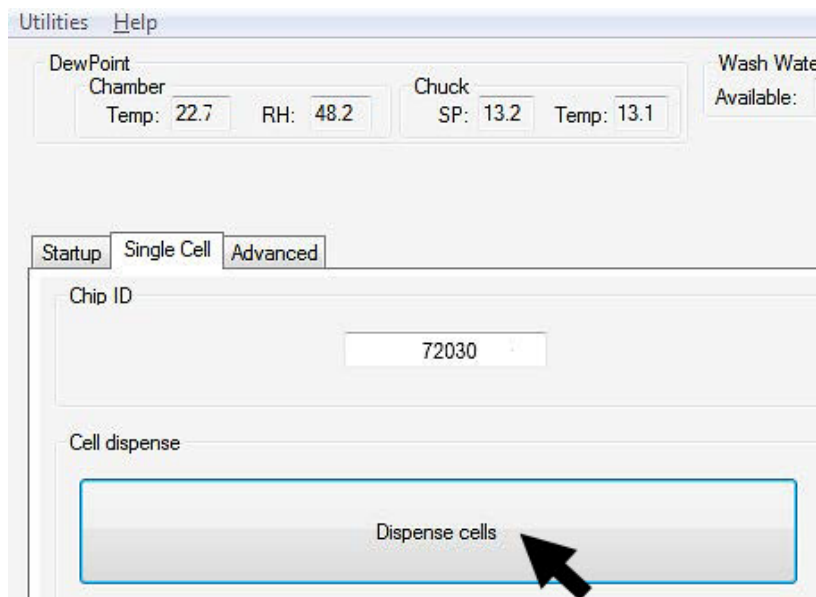

Figure 11. Using the MSND software to dispense cells into the ICELL8 TCR Chip.
- In the ICELL8 MSND Software GUI, click the [Dispense cells] button (Figure 11, below) then click **OK** after carefully going through all questions prompted. The ICELL8 MSND will start dispensing 50 nl of cell suspension, positive/negative control, and fiducial mix to the appropriate nanowells.